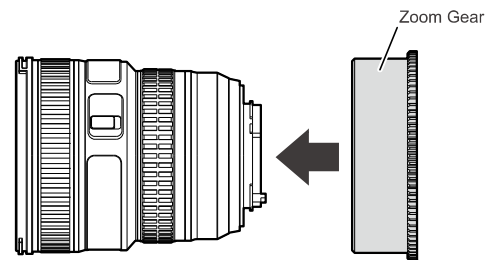

Fig.1
2 Attach this product to the lens in parallel alignment with the lens as shown in Fig.1
- Please make sure to insert the zoom gear from the front of the lens. (Fig.1)